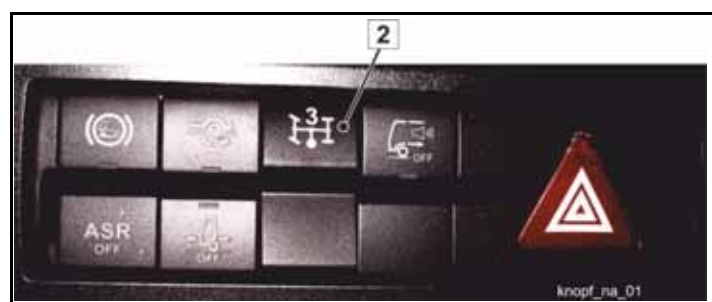

Fig. 111 Cab switch
In the cab of your vehicle, there is a switch with a symbol like in position (2) (**Fig. 111**).